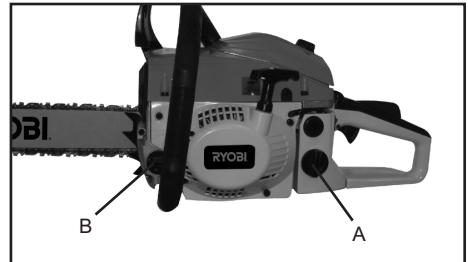

Fig. 8
2. Fill The fuel tank (Fig.8-A) with 25:1 fuel oil mix.
3. Fill The oil tank (Fig.8-B) with chain oil.